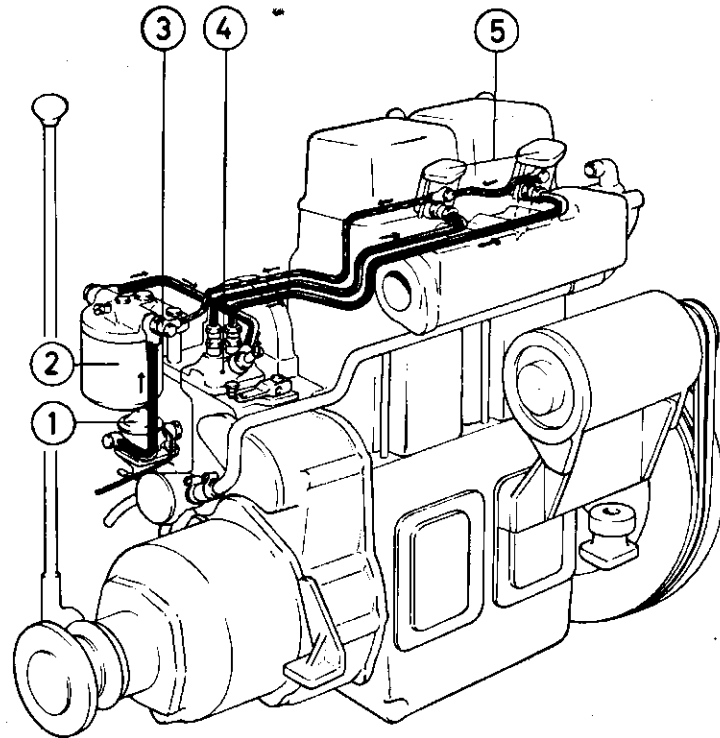

Fig. 11. Fuel system.
The fuel system consists of a fuel feed pump (1, Fig. 11) with pre-filter, fuel filter (2), injection pump (4) with governor, injectors (5), pipe-lines and fuel tank.